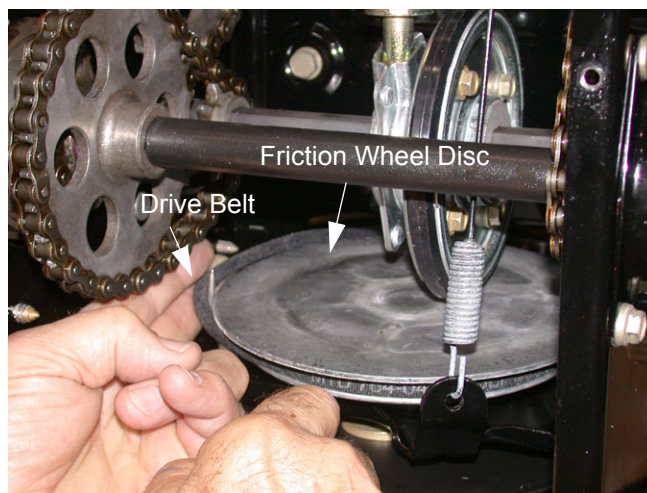

Figure 18
- 9.5. Slip the drive belt off the pulley and between friction wheel and friction wheel disc. See Figure 18.